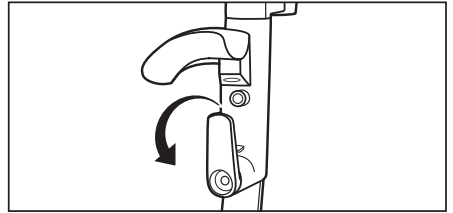
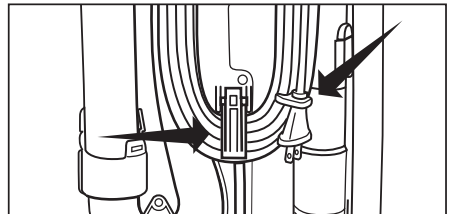

Fig. 3
Fig. 4
- The Quick Release Upper Cord Hook rotates to allow for quick access to the power cord. Turn the upper cord hook downward and you can quickly drop the power cord to the floor without unwinding it from the cord hooks (Fig. 3).
- When storing the vacuum cleaner, turn the Quick Release Upper Cord Hook to the upright position and wrap the power cord around the upper cord storage hook (Fig. 3) and the spring-activated lower cord hook (Fig. 4).